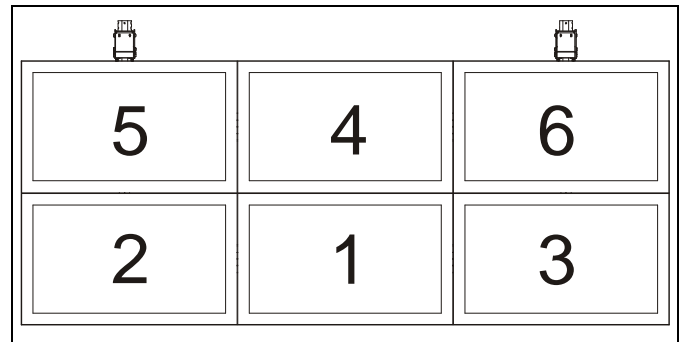

Figure 13
**WARNING:** Improper display installation can result in serious personal injury or damage to equipment! Install displays from the bottom to the top. Install all displays evenly in each row before proceeding to a higher row. Do NOT mount all of the displays on one side. On the LCM3X2, mount the center display in each row prior to installing the outside displays in that same row. (See Figure 13)